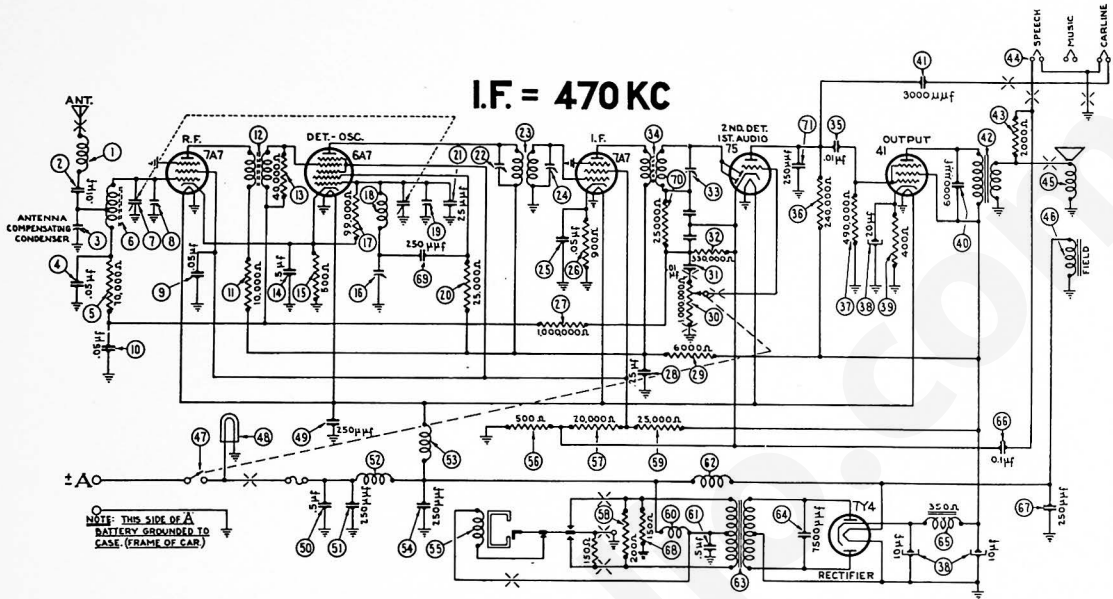

FIGURE 2
NOTE 5 — When installing the radio in the car, follow the installation instructions carefully. Tune in a weak broadcast signal between 1200 and 1400 Kilocycles on the control scale. Remove the plug button on the end of the radio and adjust the antenna compensator ③ (See Figure 2) for maximum signal.